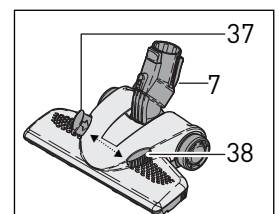

Figure 18
### Kombi Nozzle - Figure 18
The Kombi nozzle (7) is adjustable for carpet or hard floors. To set for carpet, slide the up arrow button (37) to the right until it clicks into place. The hard floor dusting brush will raise up allowing the head to move over the carpet. To set for hard floors, slide the down arrow button (38) to the left until it clicks into place. The brush will lower to gently sweep your floors. **The slider in Figure 18 is set in the position for hard floors.** The brush should be cleaned regularly. Remove the Kombi nozzle from the telescopic tube to clean. Fibers and hair can be pulled out of the bristles manually, or vacuum the bristles with the telescopic tube. The brush strip is removable for cleaning and replacement.